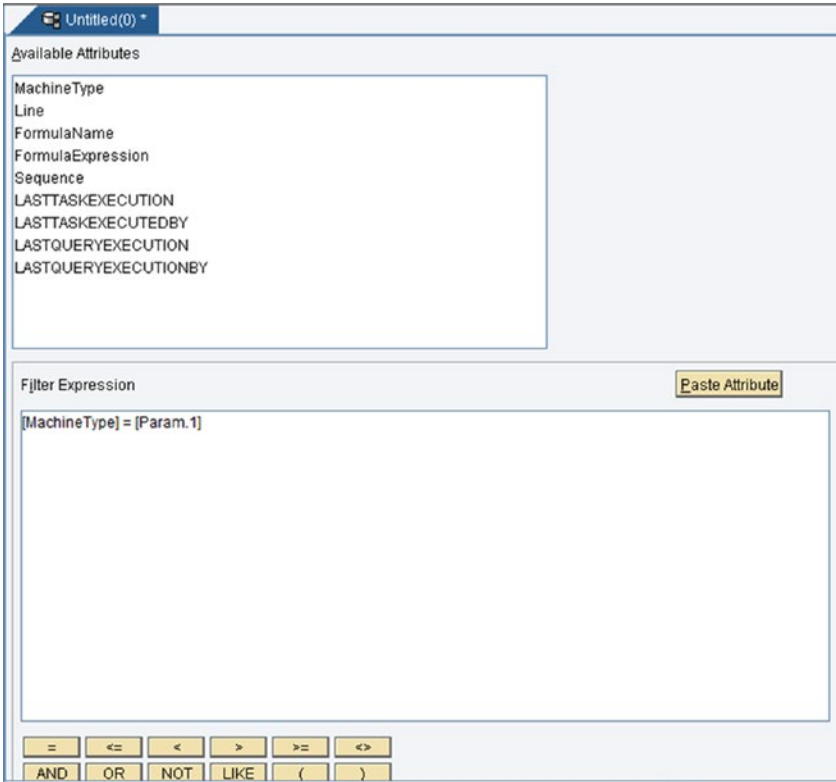

Figure 6-22. The Delete Query mode screen
- **Delete Query:** If the mode selected is the DELETE type, the MDO query will be configured in a DELETE query. This is used to delete data from the MDO, as shown in Figure 6-22.